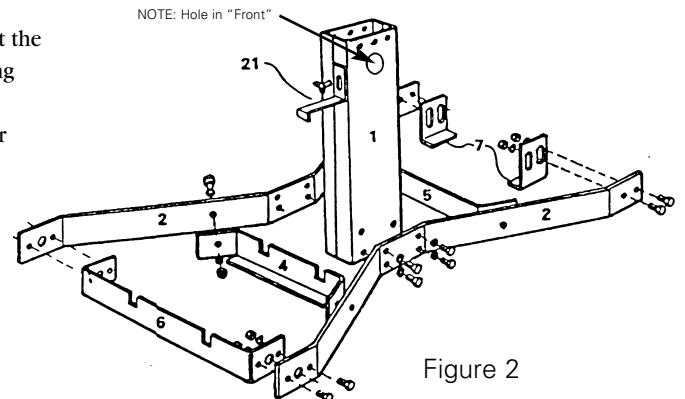

Figure 2
2. Refer to Figure 2. Select the following parts for assembly:
2b. Select left mid-brace (part 4). Place it as shown in Figure 2. Be sure notches are up and narrow flange is away from stand tube.